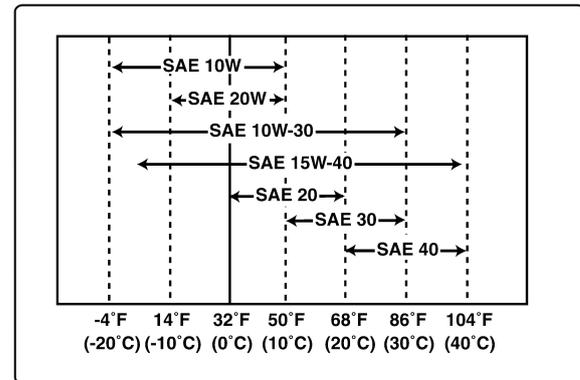

Figure 3
3. Select the oil viscosity based on the ambient temperature where the engine is being operated. See SAE Service Grade Viscosity Chart (Figure 3).
Select the appropriate engine oil viscosity based on the ambient temperature and use the SAE Service Grade Viscosity Chart in Figure 3.